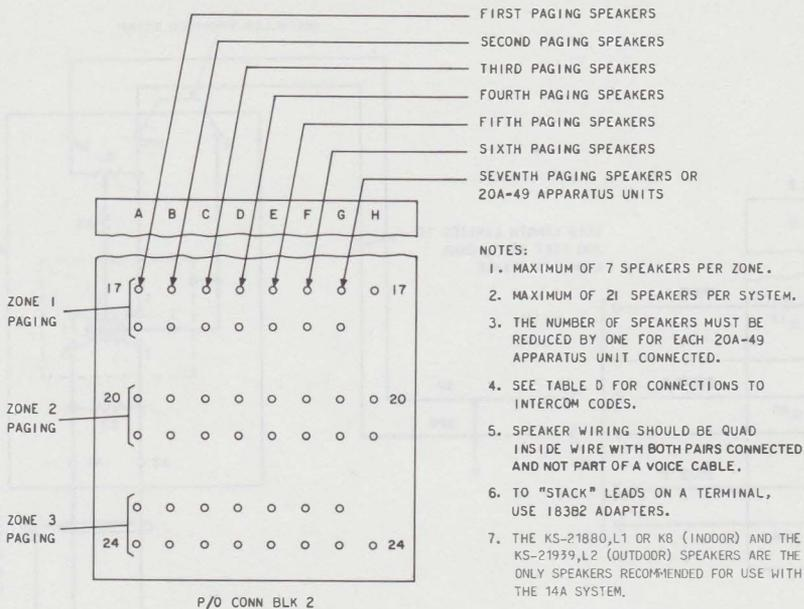

Fig. 32—Connections for Paging Speakers
- (2) Where background music is provided, install the 33A voice coupler according to 4.44(b).
- (3) Install loudspeakers and connect them to the KSU using quad inside wire with both pairs connected (see Fig. 32). To stack leads on the connecting block terminals, use 183B2 adapters. Speaker wiring should be run separately and should not be part of a voice cable. Speakers, connected with 24-gauge quad inside wire (having both pairs connected), may be located a **maximum of 320 feet** from the KSU.